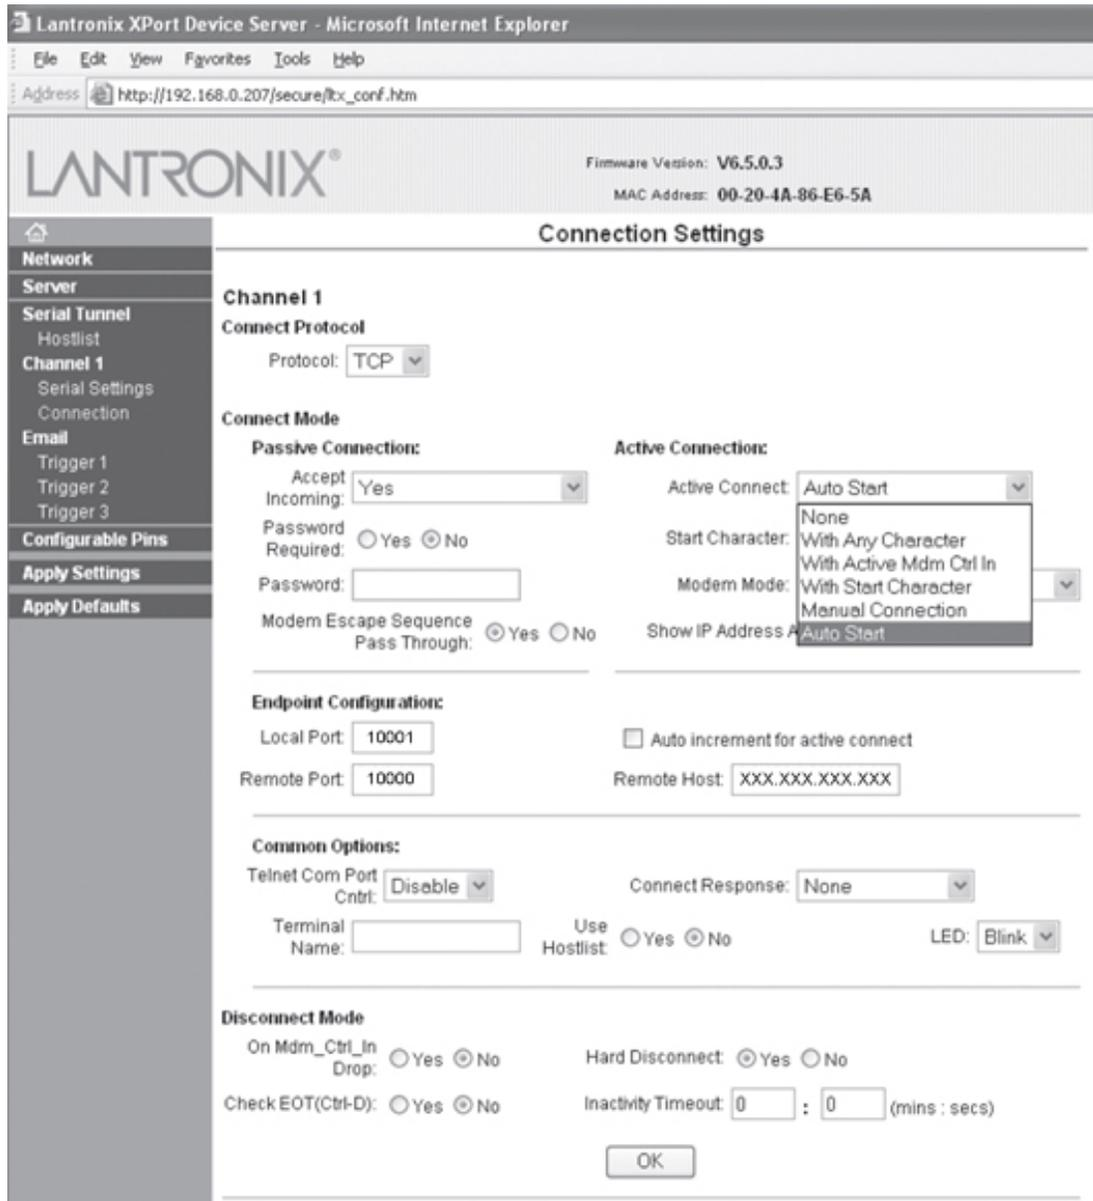

Figure 30: The Connection Settings screen
4. From the menu again, select "Channel 1, Connection, Channel 1". When the "Connection Setting" screen appears (see figure 30), verify or change the "Active Connection" drop down menu setting to "Auto Start."
5. From the same screen seen in figure 30, the settings in the "Endpoint Configuration" section must be verified / adjusted to be appropriate for your network. Default settings for these parameters are as follows: